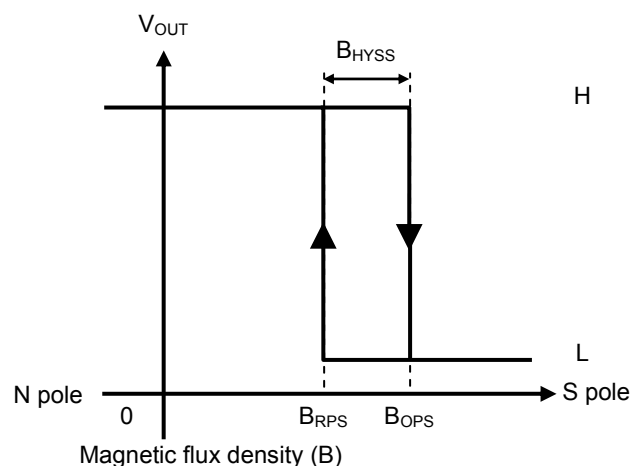

**Figure 13**
**Figure 13** shows the relationship between the magnetic density and  $V_{OUT}$ .